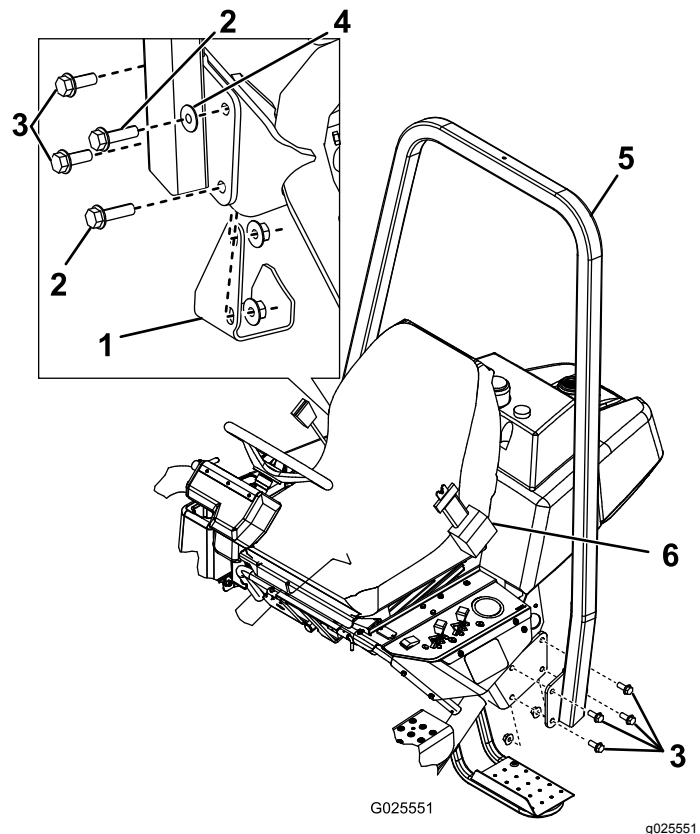

Figure 6
- Lower the ROPS frame (Figure 6) onto the mounting brackets, aligning the mounting holes.
- Secure the left side of the roll bar to the mounting bracket with 4 bolts (1/2 x 1.5 inch) and locknuts (Figure 6).
- Secure the right side of the roll bar and the previously removed jack pad to the mounting bracket with 2 bolts (1/2 x 1.5 inch), 2 bolts (1/2 x 1.75 inch), 1 washer, and locknuts as illustrated in Figure 6.
Important: Ensure that you install the washer in the correct location as illustrated in Figure 6.